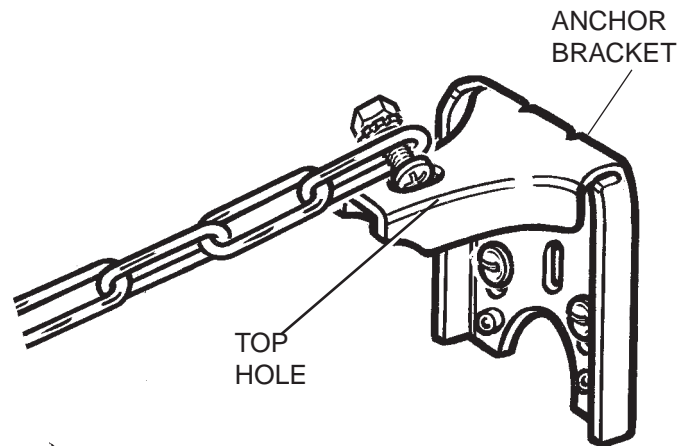

Figure 5 – securing the cooker
2. Insert the screwhead into top hole of the anchor bracket by tilting it sideways so that it is at an angle to the top hole when it is inserted. (Figure 5)